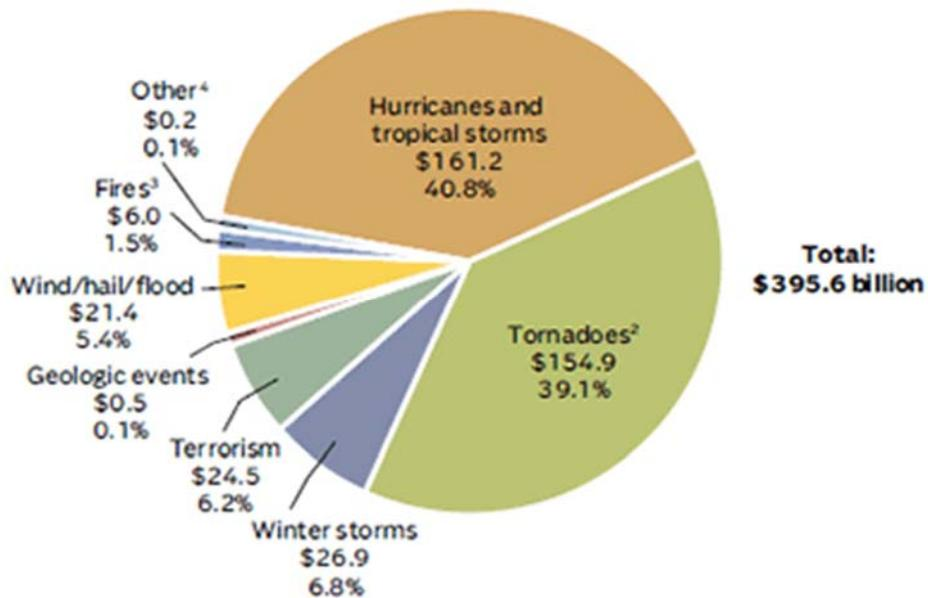

Figure 2. Inflation-Adjusted U.S. Insured Catastrophe Losses by Cause of Loss, 1995-2014 (in 2014 \$USD Billions)¹.
- 2) Wind storms are typically the largest source of insured losses in the United States. This is illustrated in the schematic in Figure 2.